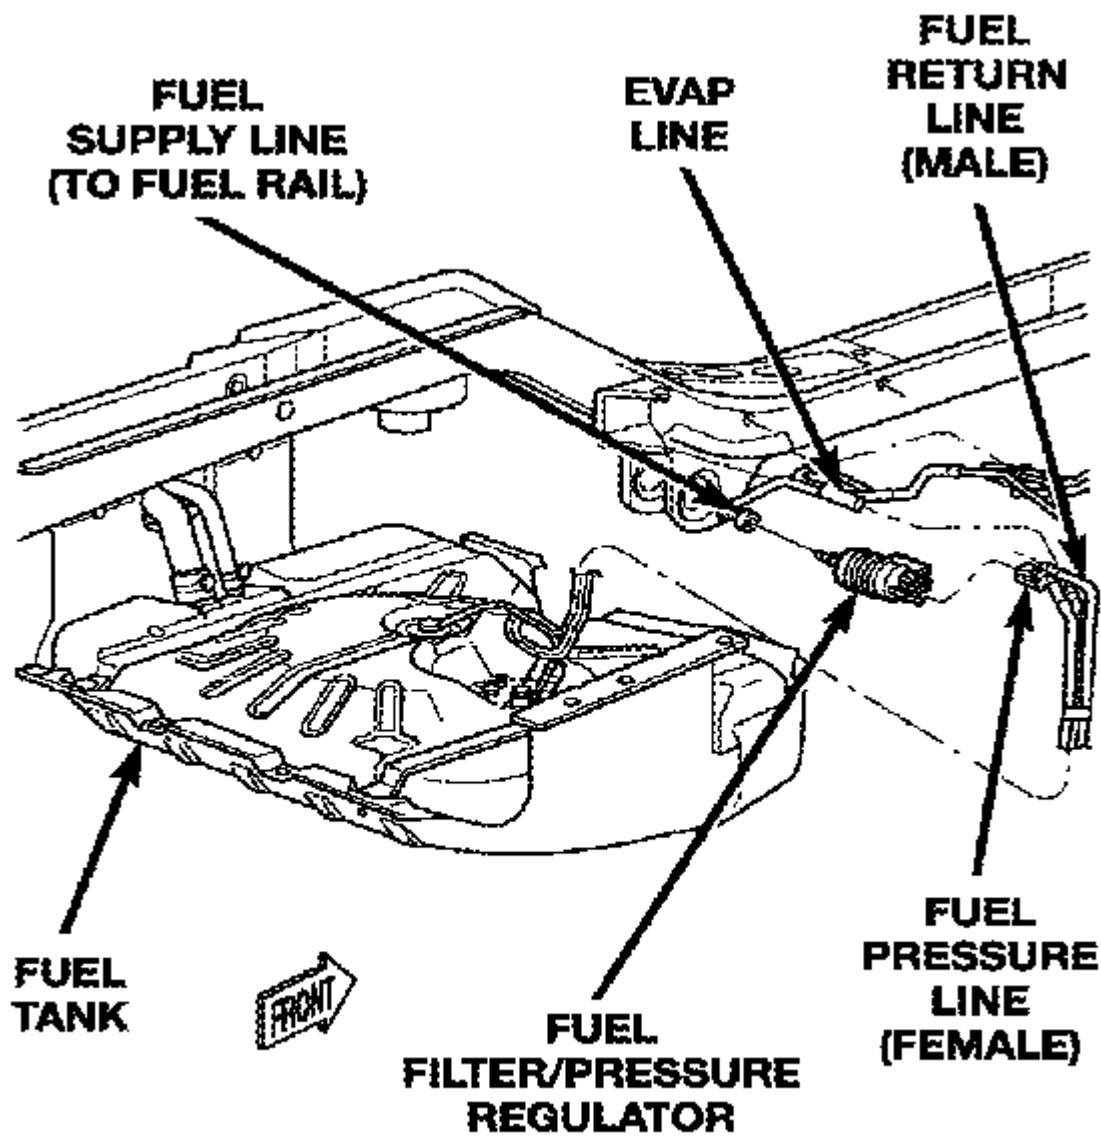

Figure 1
4. Install Fuel Pressure Adapter Tool #6539 between the fuel filter/pressure regulator inlet and the fuel pressure line from the fuel pump module. Figure 1.